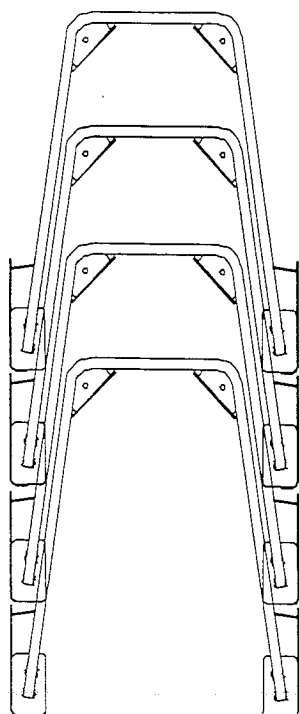

Figure 5a: Nesting style, A-Frame chassis form (version 1), plan view
**3.3.1.1 Fully Folding Sides:** Version 1. The chassis is basically A-shaped in plan view and nesting is achieved by folding the gates, sides and floor into the fixed back frame section. The projecting chassis can then be rolled under a similar nesting unit. Examples are shown in Figures 5a & 5b.